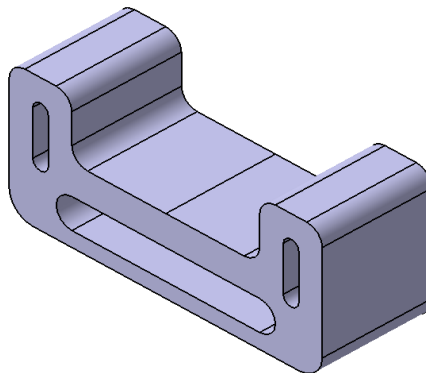
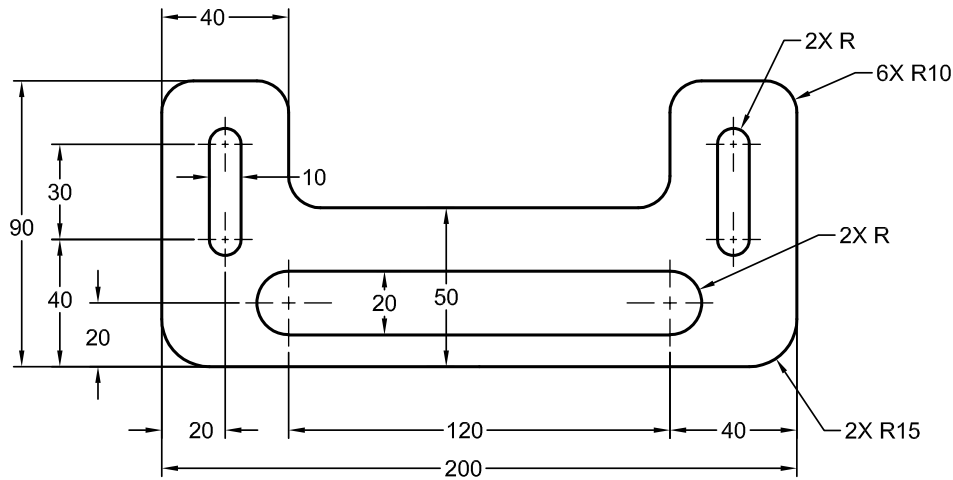

Figure 3-69 The model for Tutorial 3
Figure 3-70 The sketch of the model for Tutorial 3
In this tutorial, you will draw the sketch of the model shown in Figure 3-69. The sketch is shown in Figure 3-70. Do not dimension the sketch. The solid model and its dimensions are given only for your reference.
11. Similarly, fillet other corners of the sketch with a radius value 10, refer to Figure 3-70.